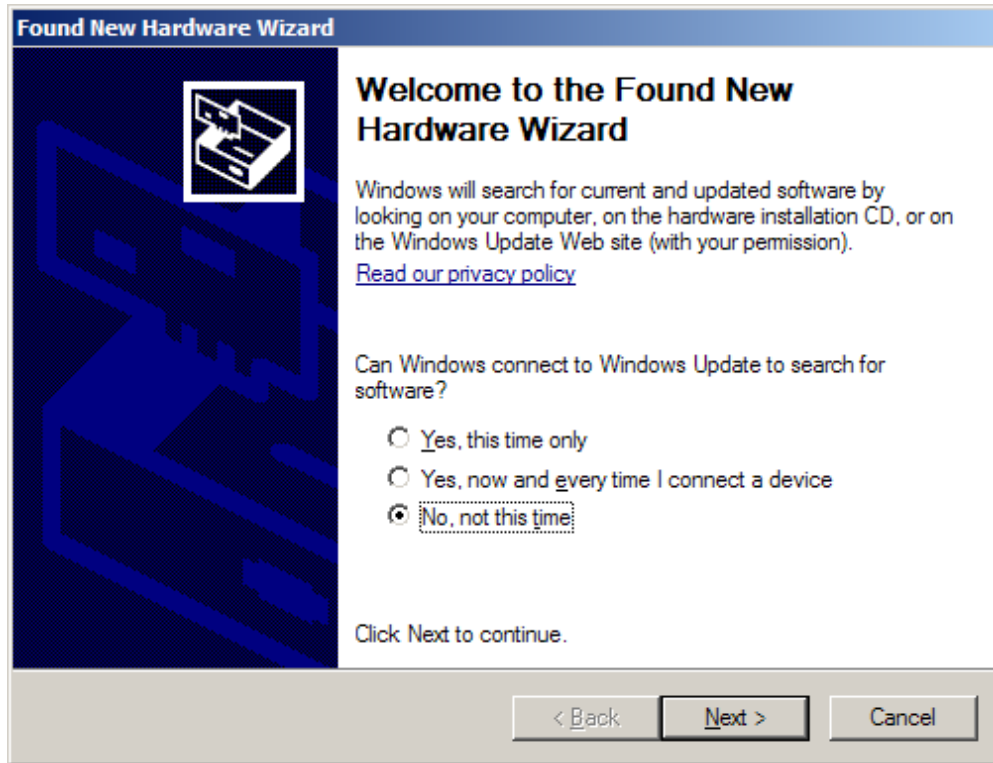
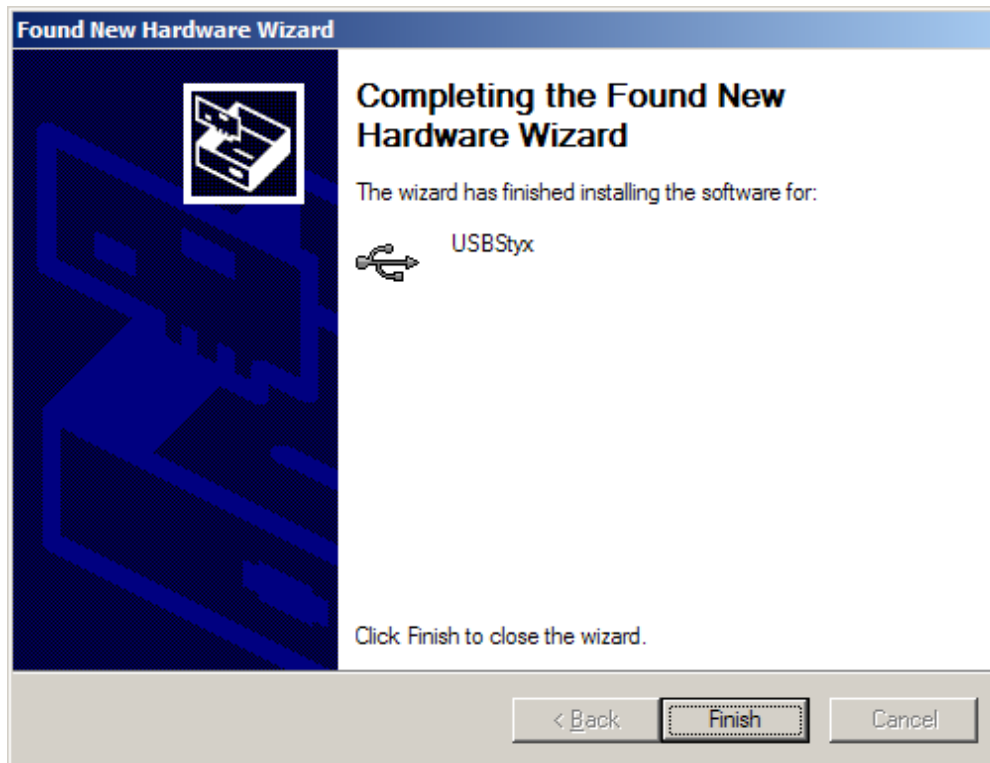

Figure 20. Install New Driver Wizard Screen 1
Figure 24. Install New Driver Wizard Screen 5
- Step 4. If you have not yet loaded the operating system drivers, Windows will display the Windows Install New Driver Wizard sequence (illustrated in Figure 20 through Figure 24). Accept the default settings.